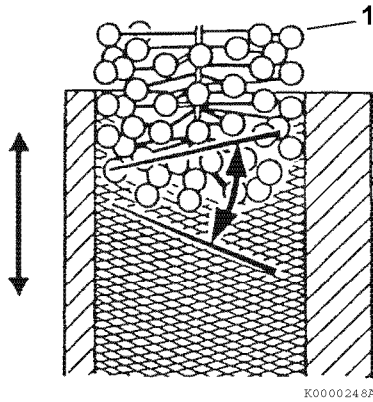

Figure 6-68
*Note: When honing a cylinder, with either a ridged hone or a ball hone (1, **Figure 6-68**) move the rotating hone up and down in the cylinder bore to accomplish a 30 to 40° crosshatch pattern (**Figure 6-68**). This will provide the ideal surface for the proper seating of new piston rings.*